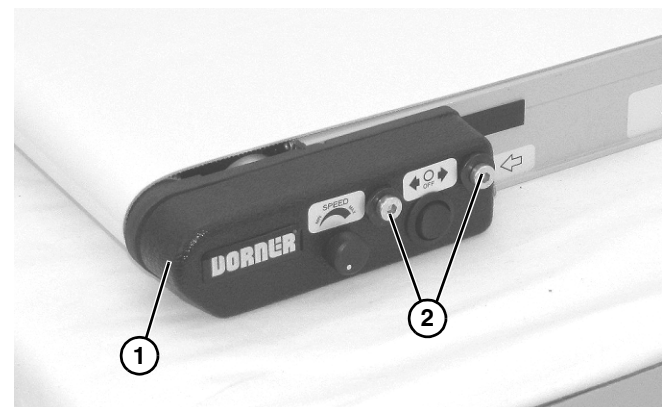

Figure 48
2. Remove inframe drive side cover (**Figure 48, item 1**) by removing two iDrive cover screws (**Figure 48, item 2**).
3. Unplug motor connector (**Figure 48, item 1**) from cover wiring connector (**Figure 48, item 2**).